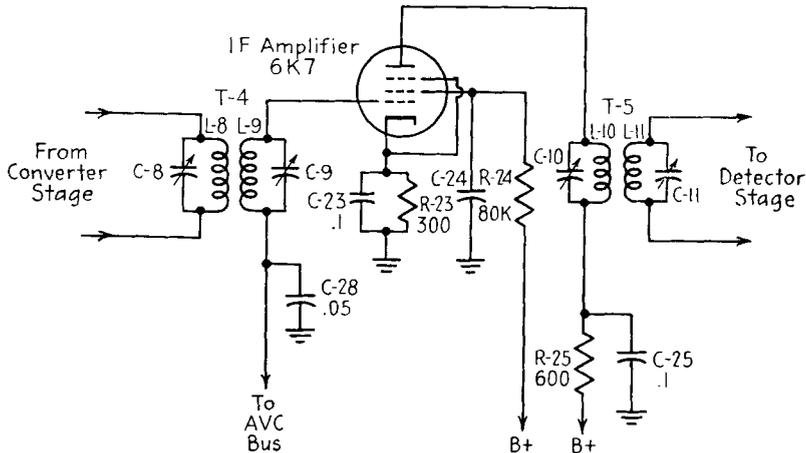

FIG. 13-1. Typical circuit of an IF amplifier stage.
**Standard circuit.** This is illustrated by Fig. 13-1.